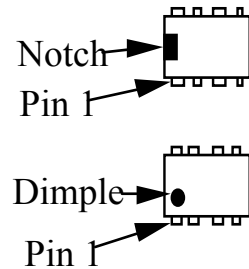

Figure 4-7
- Insert U1 into its socket, with the notched or dimpled end of the IC aligned with the notched end of the PC board outline. Figure 4-7 shows an 8-pin IC; U1 is similar but has 18 pins.) Press U1 down into the socket as far as it will go.
Install the 8-pin ICs, U2 (MAX518), U3 (24LC04), and U5 (LM358) on the bottom side. Orient the notched or dimpled end of each IC with the notched end of its component outline (see Figure 4-7). Bend two leads outward slightly on the opposite side of the board to hold the devices in place, but do not solder yet.